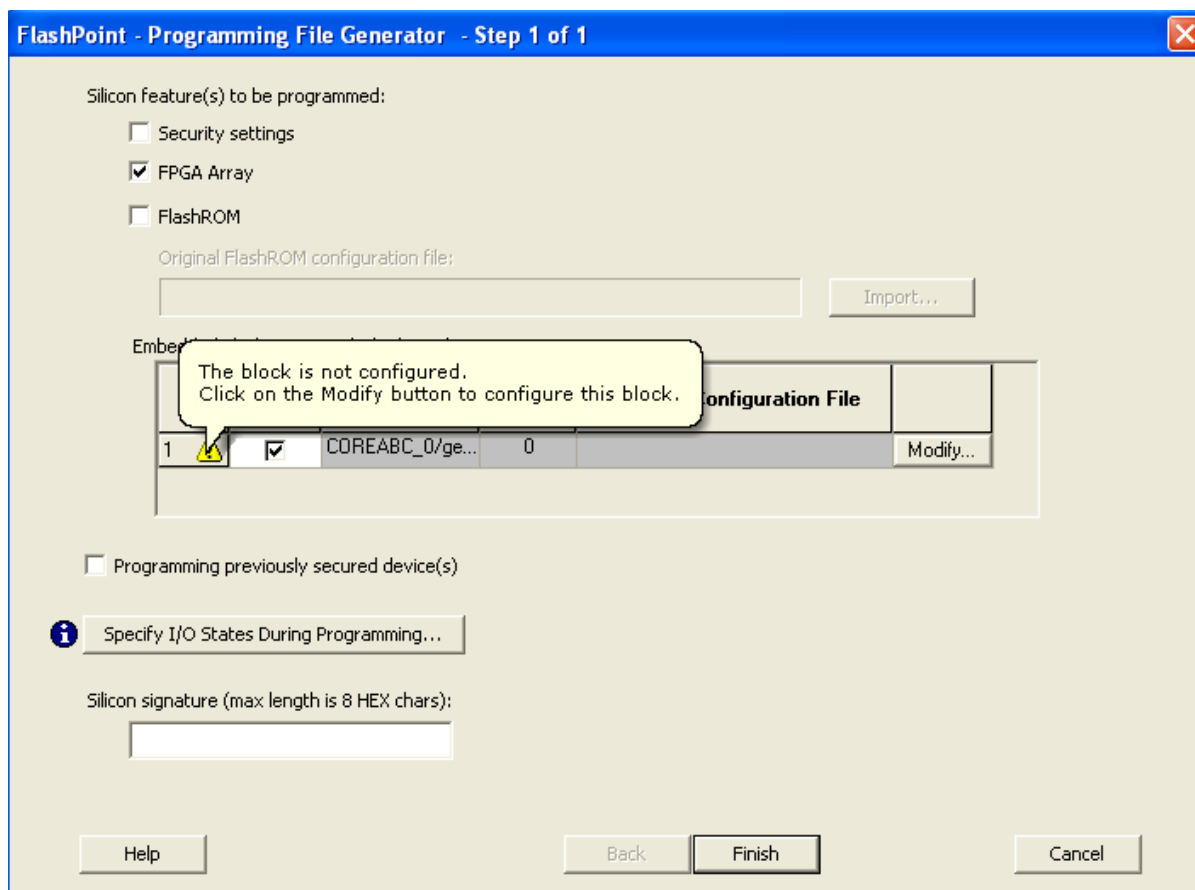

Figure 7-15 • Block Not Configured Warning
- When synthesis has completed, exit Synplify and then click **Place & Route** to run Compile, Layout, and Programming File generation. When you click **Programming File** in Designer to run FlashPoint to generate the programming file (PDB file), you will receive the warning shown in Figure 7-15.